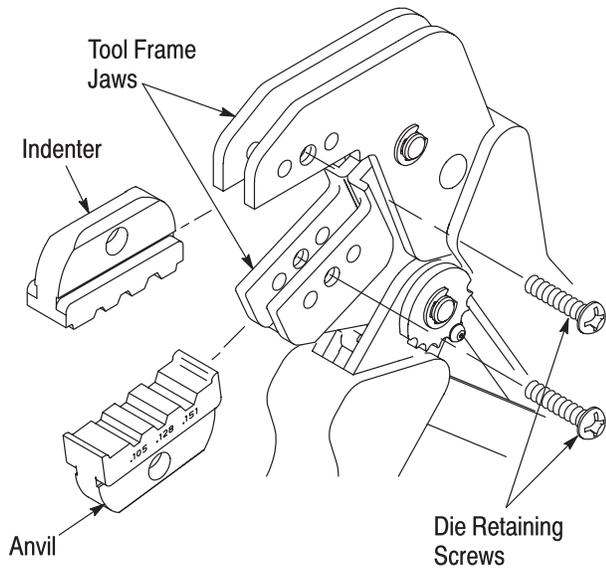

Figure 2
3. INSTALLATION AND REMOVAL OF DIE ASSEMBLY (Figure 2)
2. Insert the dies into the tool jaws as shown in Figure 2, and align the retaining holes in each die with the associated hole in the tool.